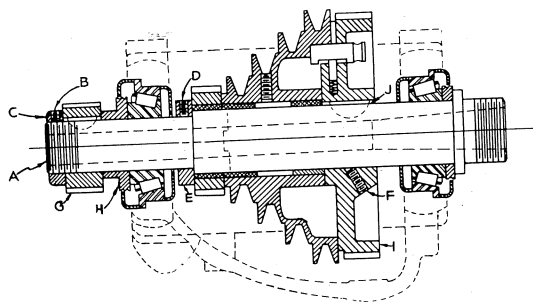

FIG. 12A
Fig. 12A) on the thrust nut, C, at the extreme left end of the spindle, A, and turn it up to a point where no play can be detected in the spindle. Advance this thrust nut 1/16 turn (equal to two teeth on the spindle gear) past that point in order to provide the correct pre-load. Tighten the set screw.
*To remove Timken Bearing Spindle for replacing belts: See Fig. 12A. Remove gear guards. Loosen set screw B, 2 set screws D, and set screw F. Remove thrust collar C, feed gear G, and flanged collar H. Place 2 pieces of wood between head and large spindle gear I. Hold piece of wood on left end of spindle and tap firmly with hammer. Continue tapping spindle from left to right until key J comes out of gear I. Remove key with pliers. Remove burr from spindle beneath F. Continue to drive spindle until there is sufficient room for belt. To reassemble, reverse process.*